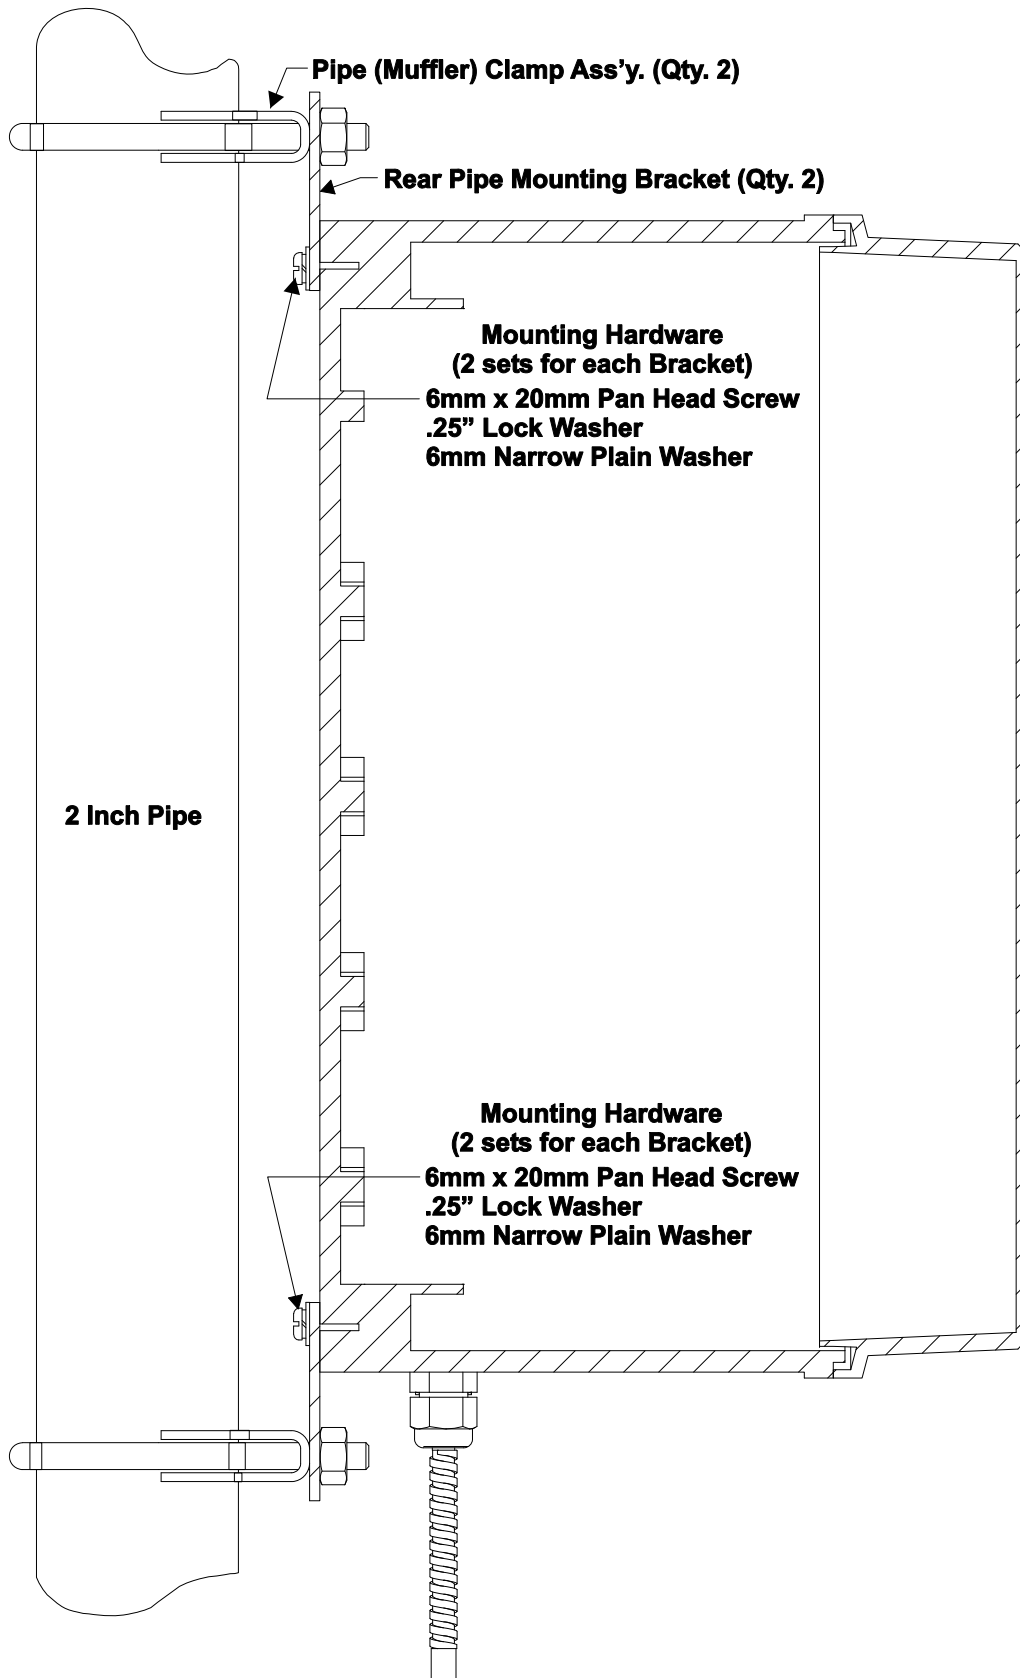
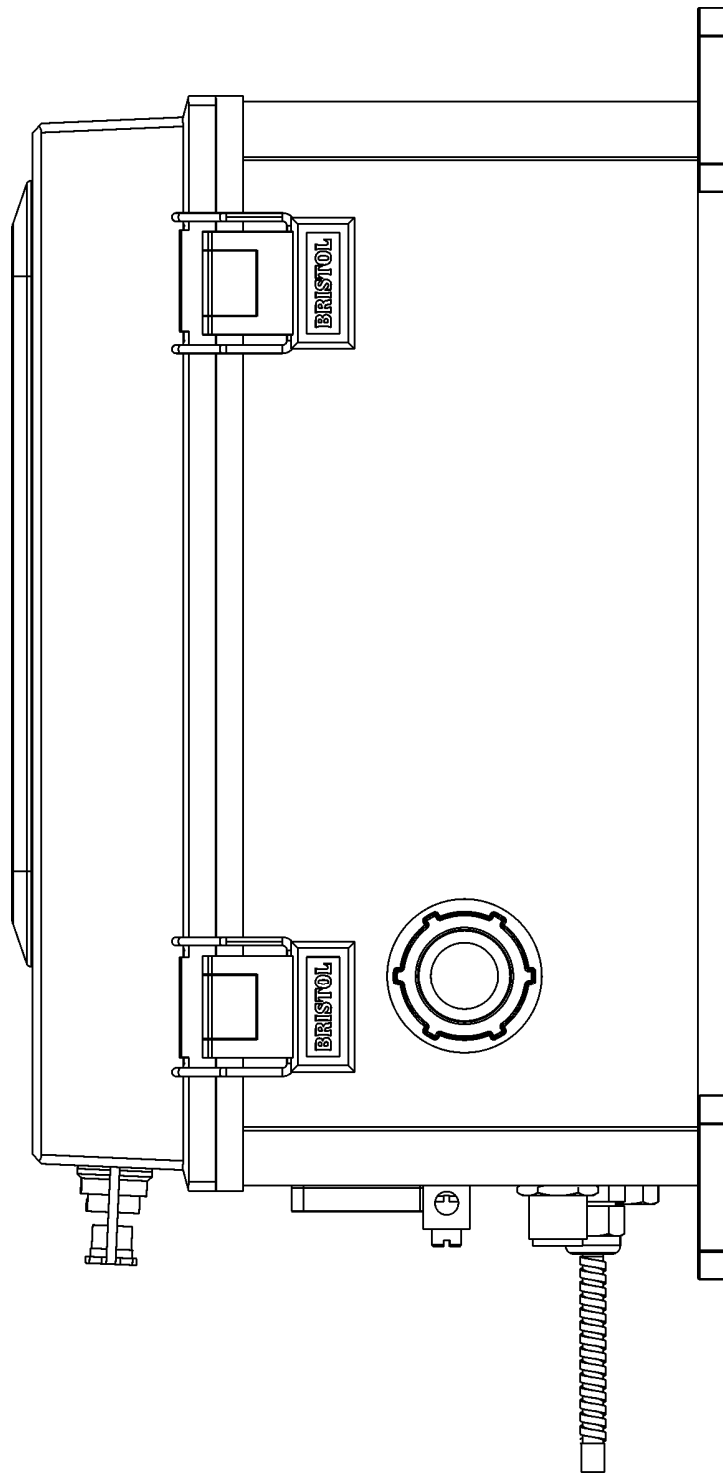

Figure 2-4. Side View of ControlWave ExpressPAC (Mounted to a 2" Pipe)
Figure 2-5. Side View of ControlWave ExpressPAC (Wall or Panel Mounted)
- Mount the unit to a panel, a wall or to a vertical 2 inch pipe clamped at the rear of the unit using two clamps and four bolts. See *Figure 2-4* and *Figure 2-5*. If you mount to a pipe, it must be anchored in cement deep enough to conform to local building codes associated with frost considerations.